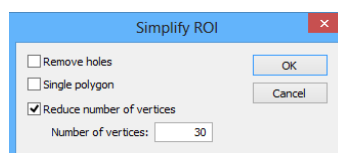

Figure 234 – Simplify ROI dialog
2. Click the **Simplify...** button. The **Simplify ROI** dialog is then displayed (see Figure 234).